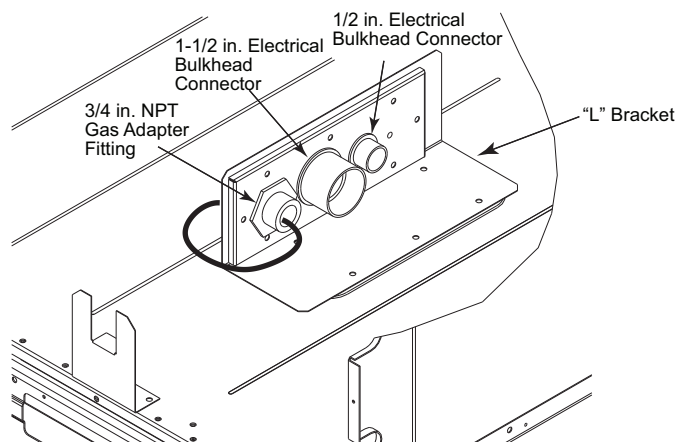

Fig. 29 — 48WE*H08/12 Thru-the-Base Option, Shipping Position
This service connection kit consists of a 3/4 in. NPT gas adapter fitting (stainless steel), a 1/2 in. electrical bulkhead connector and a 1-1/2 in. electrical bulkhead connector, connected to an "L" bracket covering the embossed (raised) section of the unit basepan in the condenser section. See Fig. 29.
1. Remove the "L" bracket assembly from the unit (see Fig. 29).